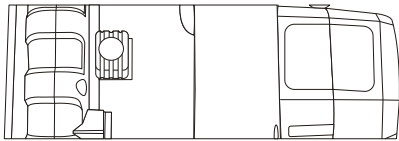

Figure 3
1. Place your right thumb on the shaft-locking button. (Figure 3)